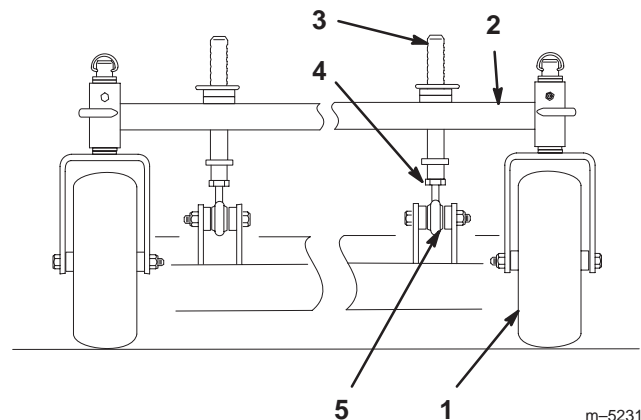

Figure 50
1. To change the front-to-rear pitch, the front height-of-cut posts can be adjusted (Fig. 50).
2. To raise the front of the deck, loosen jam nut and rotate the front pin clockwise (Fig. 50).
3. To lower the front of the deck, loosen jam nut and rotate the front pin counter clockwise (Fig. 50).